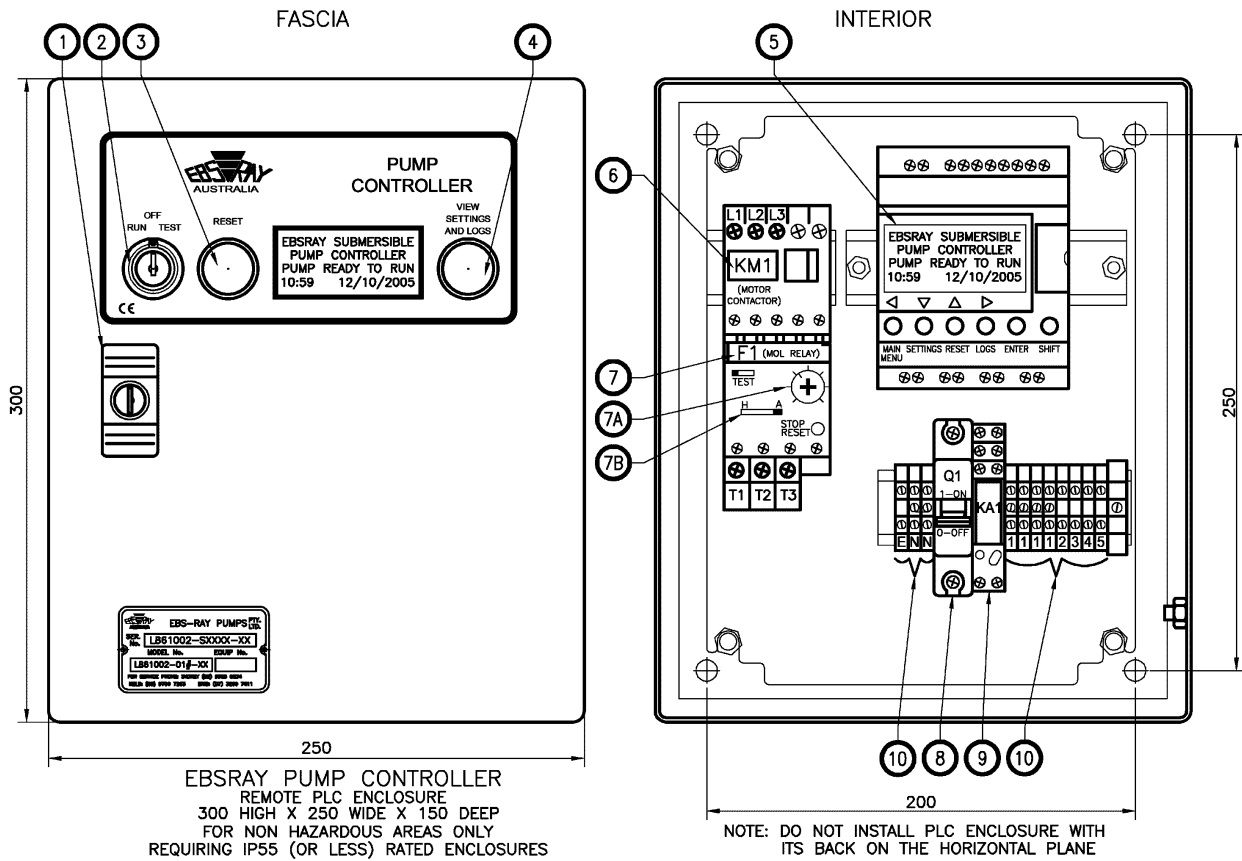

Figure 11
12. Ensure MOL Current Cut-Out Selector is set to FLA rating (see Appendix B or C) and MOL Reset Selector is in automatic reset mode – position (A) (See Figure 11).